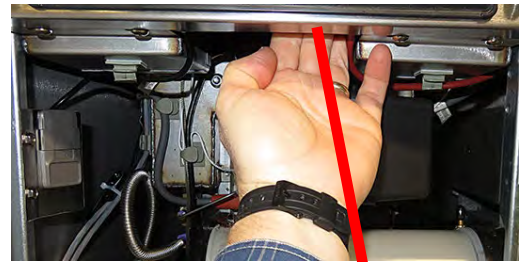

Figure 5
21. Cycle the fryer control power using the reset switch. In FQGLA models, this is located under the USB slot (see Figure 3). In FQG30-T models the momentary rocker switch (see Figure 4) is located under the far-left control box (see Figure 5). In FQE30-T models the momentary rocker switch is located directly behind the JIB reset switch (see Figure 6).